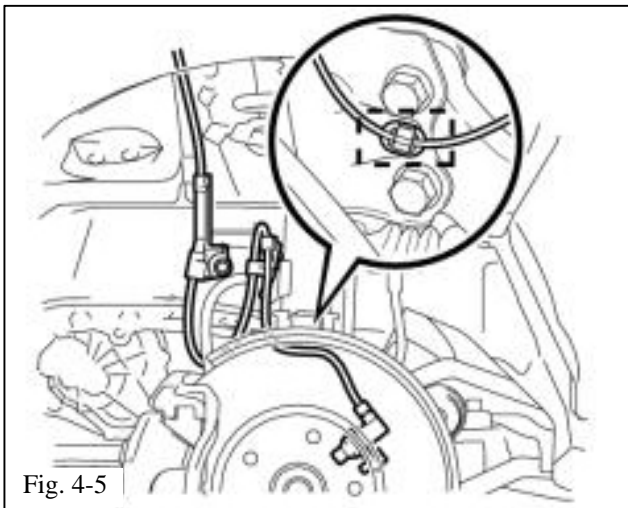

Fig. 4-5
(2) Install the front speed sensor wire back into the clip on the shock absorber assembly (Fig. 4-5).